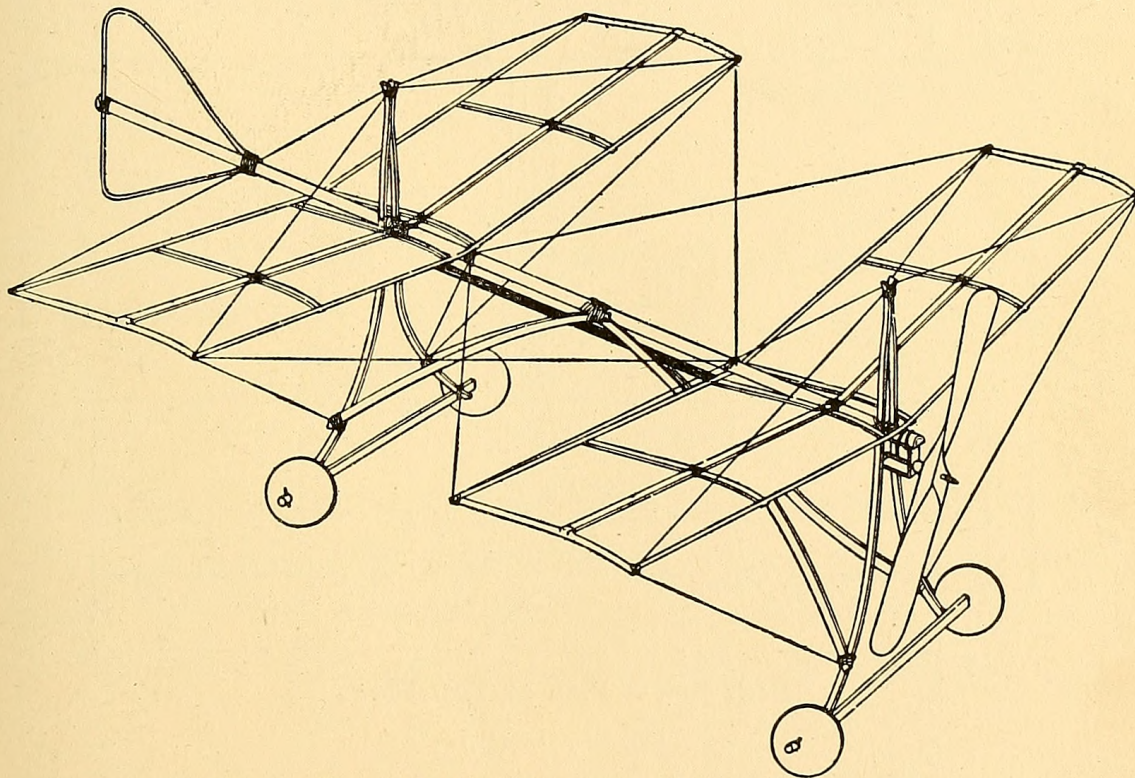

FIG. 397. — A More Elaborate Monoplane Model.
**A More Elaborate Monoplane Model** is shown in Fig. 397. This is one of the forms of monoplane models used by the boys of the Chicago Calumet High School
not shown on the connections on the plan and elevations, in order not to make the drawings complicated, but you will readily see where it is necessary by looking at Fig. 397.
**The Rudder Frame** should be lashed to the center-pole, as shown in Figs. 397 and 400. Cover the frame with thin paper or silk.